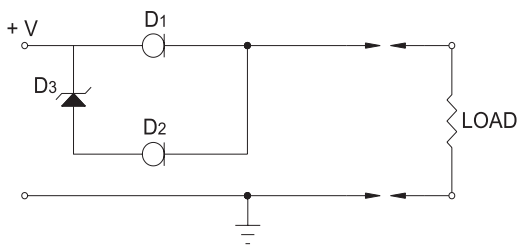

Figure 20. Two-Step Battery Charger
**Two-Step Battery Charger**—A pair of CLDs, along with a zener diode, provides for an excellent two-step battery charger, as shown in Figure 20.